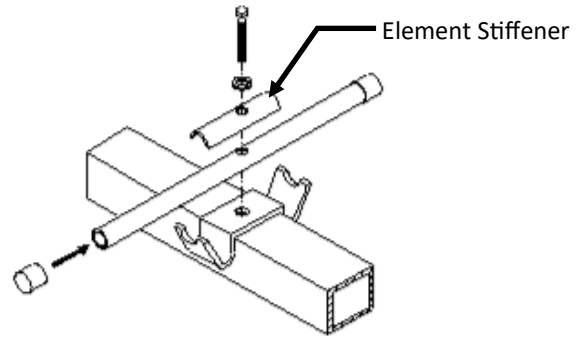

Figure 2: Director Assembly Detail
1. Assemble the elements to the crossarm using a single long hex bolt as shown in Figure 2. Do not over tighten the hex bolts.